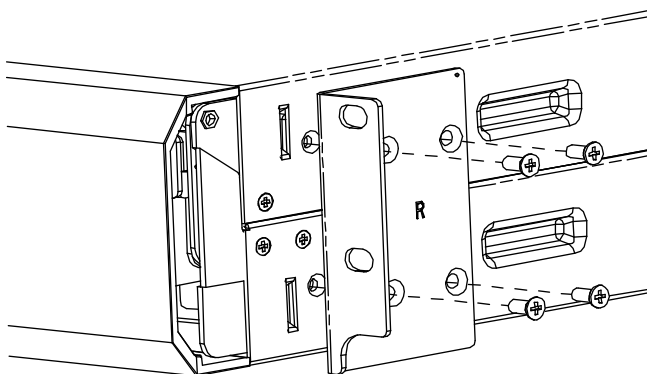

Fig. 4: Fastening the mounting bracket (right hand side)
6. Now fasten the two brackets that come with the device to the side of the UPS and, if using, an external battery unit according to Fig. 4. Make sure to put the bracket marked “L” on the left and the one marked “R” on the right hand side.